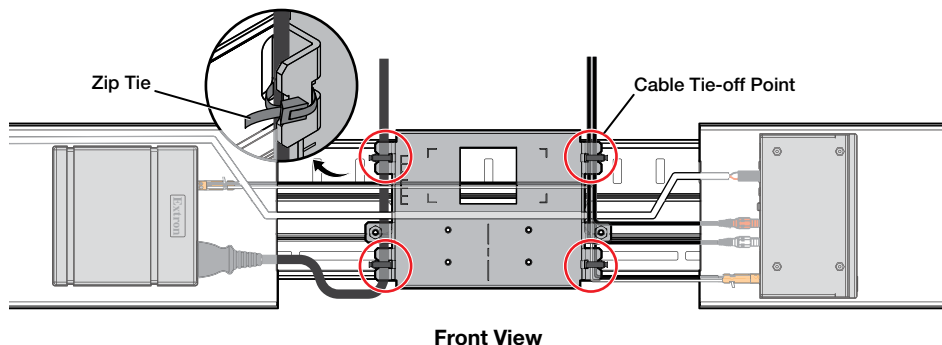

Figure 27. Securing Cables with Zip Ties
2. Secure the cables with zip ties to cable tie off points located on the center bracket, as shown in figure 27.